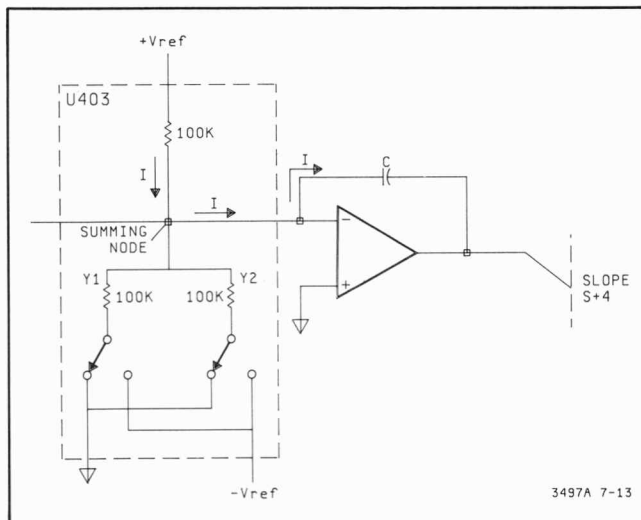
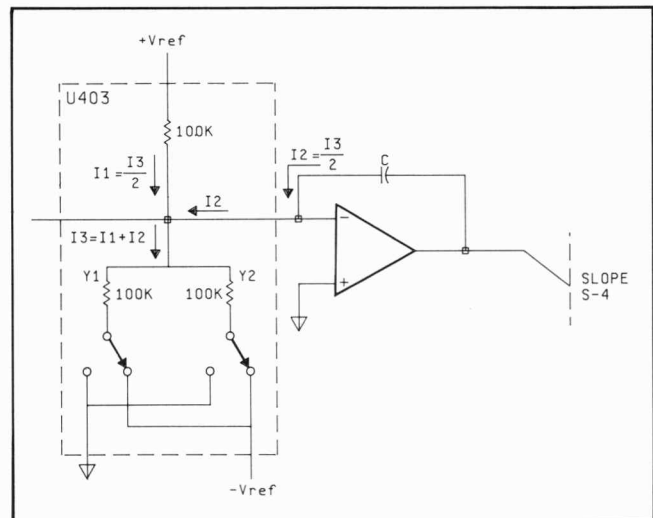

Figure 7-13. Slope S+4 Generation
Figure 7-14. Slope S-4 Generation
a. Slope S + 4. Refer to Figure 7-13. Note that both Y1 and Y2 paths are connected to ground. Since the summing node of the paths is a virtual ground and Y1 and Y2 are also connected to ground, no current flows between the paths and the summing node. Current does flow from +Vref (Positive Reference Voltage, +12V) through a 100K ohm resistor into the integrator capacitor (C). This generates a negative going output slope.
b. Slope S-4. Refer to Figure 7-14. Note that both Y1 and Y2 paths are connected to $-V_{ref}$ (Negative Reference Voltage, $-12V_A$). Since the summing node is a virtual ground, current flows from $+V_{ref}$ through a 100K ohm resistor and paths Y1 and Y2 to $-V_{ref}$. Current also flows from the integrator capacitor (C) to $-V_{ref}$. This current is generated because the total resistance of the Y1 and Y2 paths is smaller than the 100K ohm resistor from $+V_{ref}$. The current from $+V_{ref}$ plus the current from the capacitor equals the total current through paths Y1 and Y2. Since the total resistance of paths Y1 and Y2 is 50K ohms, the current from $+V_{ref}$ (I_1) and the current from the capacitor (I_2) is half as large as the total Y1 and Y2 current (I_3). The resultant output slope is positive.
ference is that they are developed with the input current removed. The S + 0 slope is generated the same way as the S + 0 slope in runup (see paragraph 7-165). The S-3 and S-1 currents use the same circuitry configuration as the S-4 current (see Figure 7-14), but use different resistor values. The resistor values are such that the S-3 current is 1/10 the S-4 current and the S-1 current is 1/1000 the S-4 current. The S + 2 current uses the same circuitry configuration as the S + 4 current (see Figure 7-13). In this case, the resistor values chosen are such that the S + 2 current is 1/100 the value of S + 4 current.